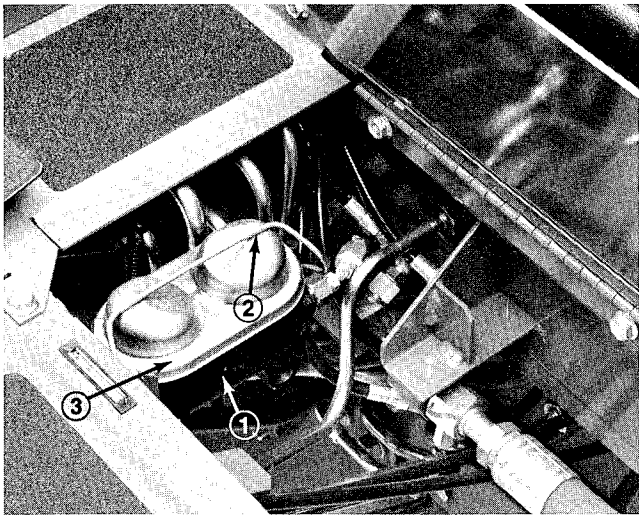

Figure 55
2. Snap cover bail off cover and remove cover from master cylinder (Fig. 55).